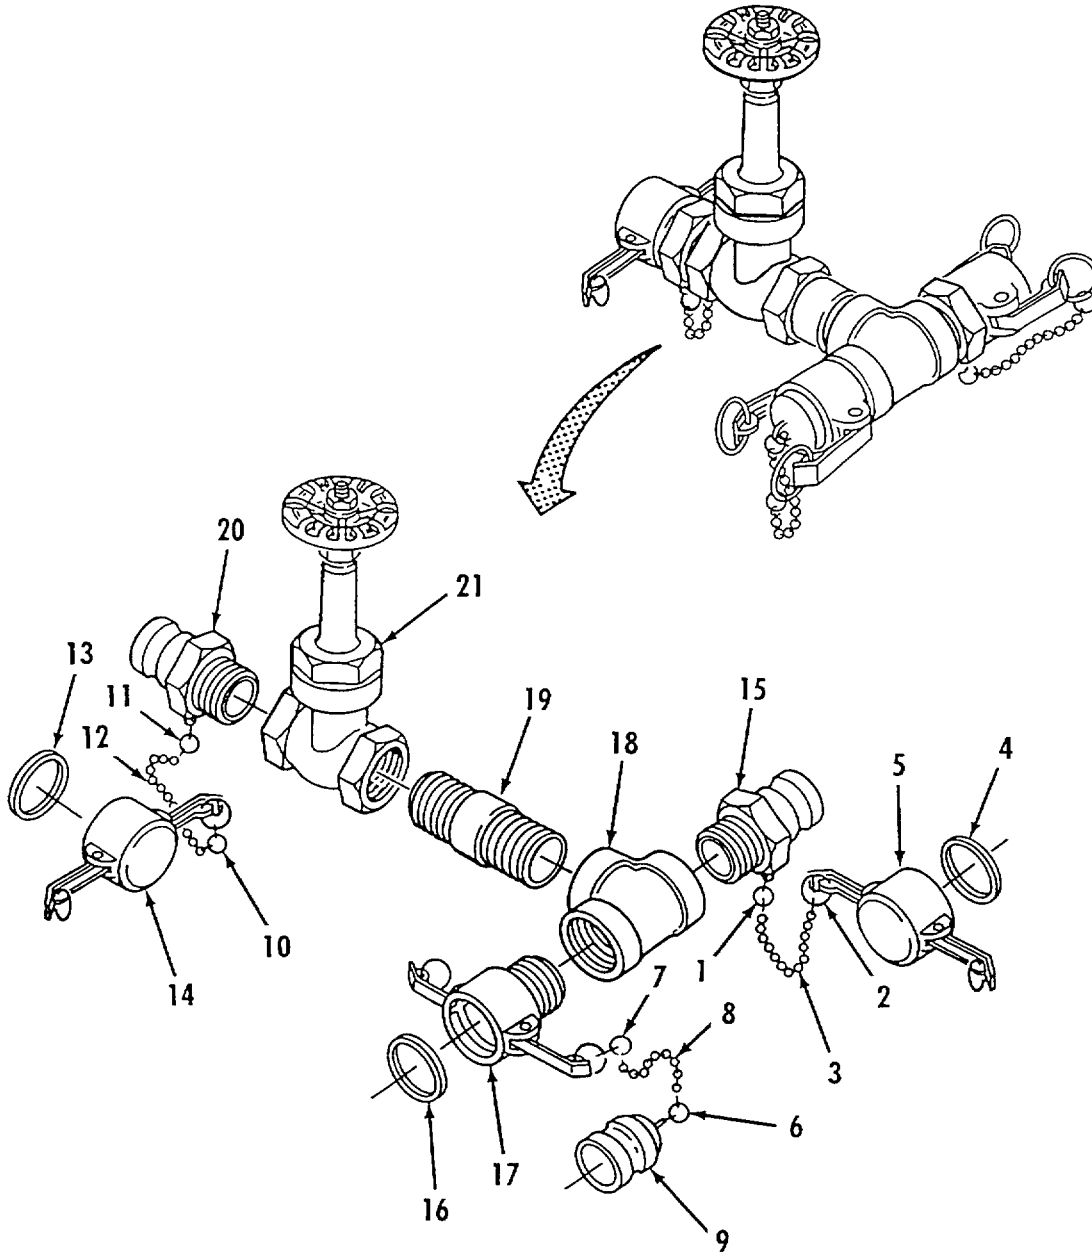

Figure 4-16. 3-inch Fueling Manifold Assembly Repair.
- a. Disassembly. Refer to figure 4-16.
- d. Assembly. Refer to figure 4-16.
- (1) Apply thread sealant to male threads of all components.